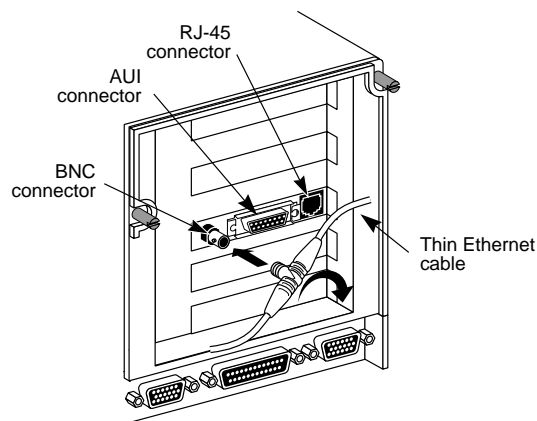

Figure 2-3 Connecting Thin Ethernet Cable
- 1 Connect the T connector to the adapter's BNC connector (see Figure 2-3).